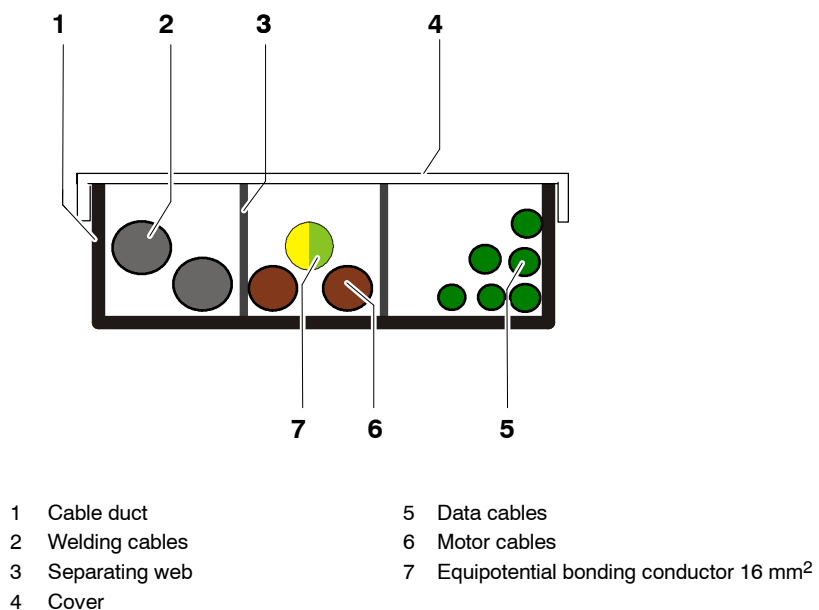

Fig. 72 Routing of cables in cable ducts
- Route the motor cables and the control cables separately in metal ducts (Fig. 72); if necessary, additional measures must be taken to ensure electromagnetic compatibility (EMC).